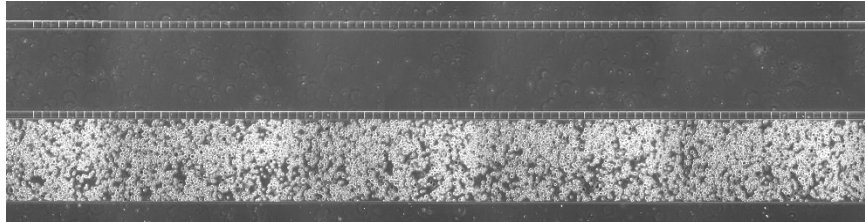

Figure 2. An example of a confluent endothelial cell seeding density in one of the outer channels.
15. Take an image of the cells (**Figure 2**). Cell density should be consistent across the whole channel.
1. Take phase and fluorescence images of all devices after the 1-hour incubation period is completed (**Figure 2**).
Figure 2. A lung epithelial-endothelial co-culture model tested in a permeability assay. Phase contrast images of the co-culture before treatment (A) are shown. Co-cultures were tested in a permeability assay, either as an untreated control (B) or with a proprietary compound that induces permeability (C).